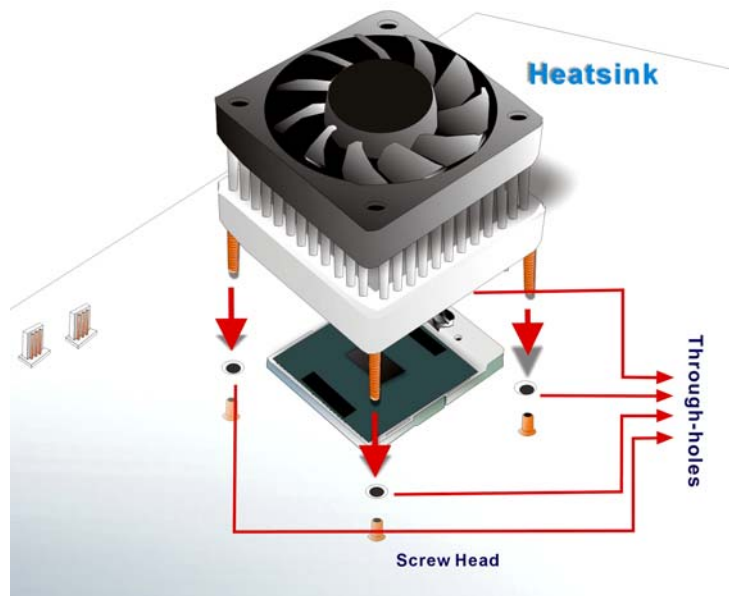

Figure 4-4: Securing the Cooling Kit
- Step 3:** Secure the cooling kit. From the solder side of the PCB, align the provided nut caps to the heat sink screw threads that protrude through the PCB holes. Without over tightening the nut caps, insert them onto the protruding screw threads to secure the cooling kit to the PCB board. (Figure 4-4)